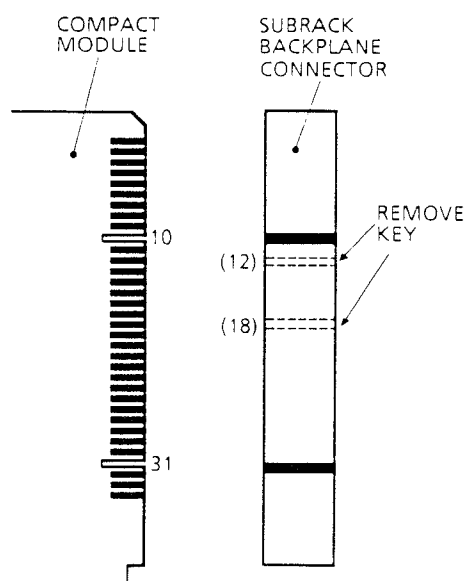

Figure 5.2 - Basic Input Module Coding
- (2) From a separate external supply. This requires the removal of the two zero ohm resistors R14 and R15. Figure 5.2 shows the connections to be made at the terminal block (TB1).